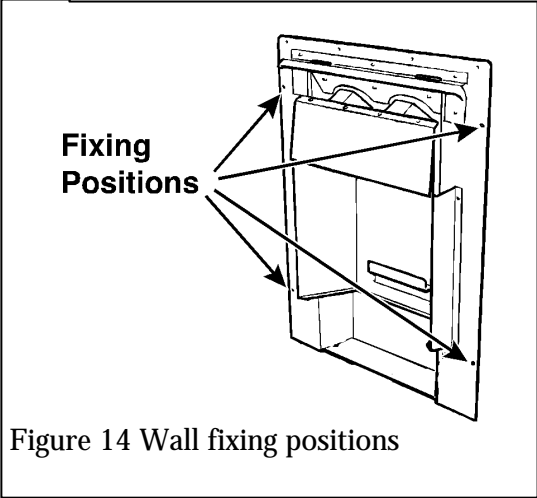

Figure 14 Wall fixing positions
**7.4** For fixing the unit to the wall (see figure 14):